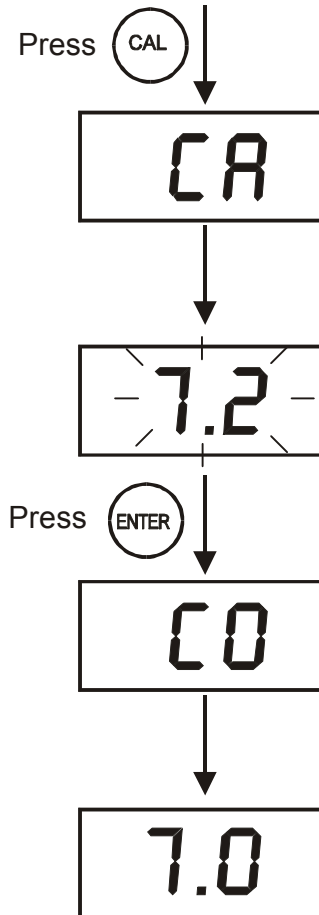

Figure 2 - pH Calibration
5. Let the electrode soak in the buffer until reading is stable, stirring occasionally (time will vary depending on temperature and electrode condition). When the display has flashed the same pH value for 15 seconds or more, press the ENTER key. "CO" will flash on the display. The reading should now display pH 7.0. See Figure 2.